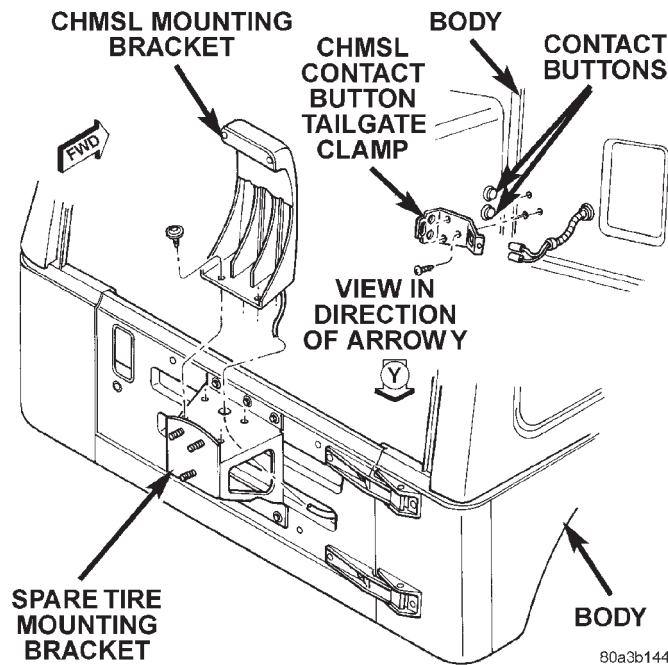

Fig. 6 CHMSL Contact Buttons
(4) Carefully pull wire harness terminal ends from contact buttons (Fig. 6).
(5) Route wire harness through tailgate and separate CHMSL from vehicle.